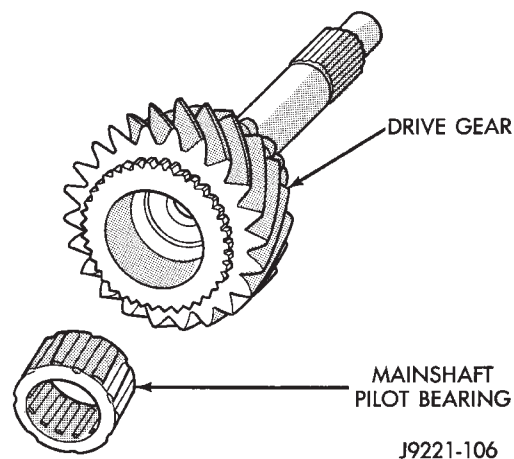

Fig. 42 Pilot Bearing Removal/Installation
- (2) Remove pilot bearing from drive gear (Fig. 42).
- (3) Remove tapered bearing from drive gear as follows: